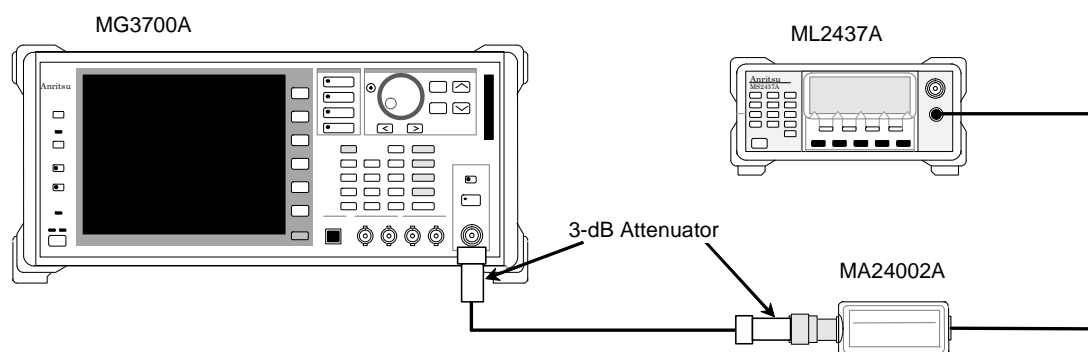

Figure 6.3.2-1 Signal Generator Calibration Setup (MOD)
1. Setup the instruments as shown in Figure 6.3.2-1.
2. Output a modulated 399.99 MHz signal from the Vector signal generator (SG) at a level of -4 dBm with Waveform pattern rmc_12_2k_bs_ul.